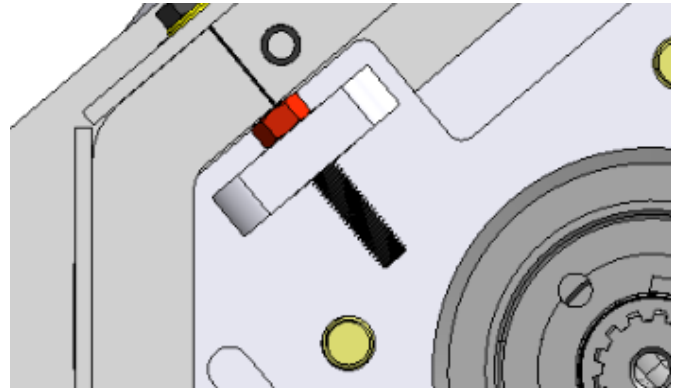

Figure 16
4. Lower the hydraulic motor sliding plate by turning the tension bolt counterclockwise. See Figures 16 and 17.